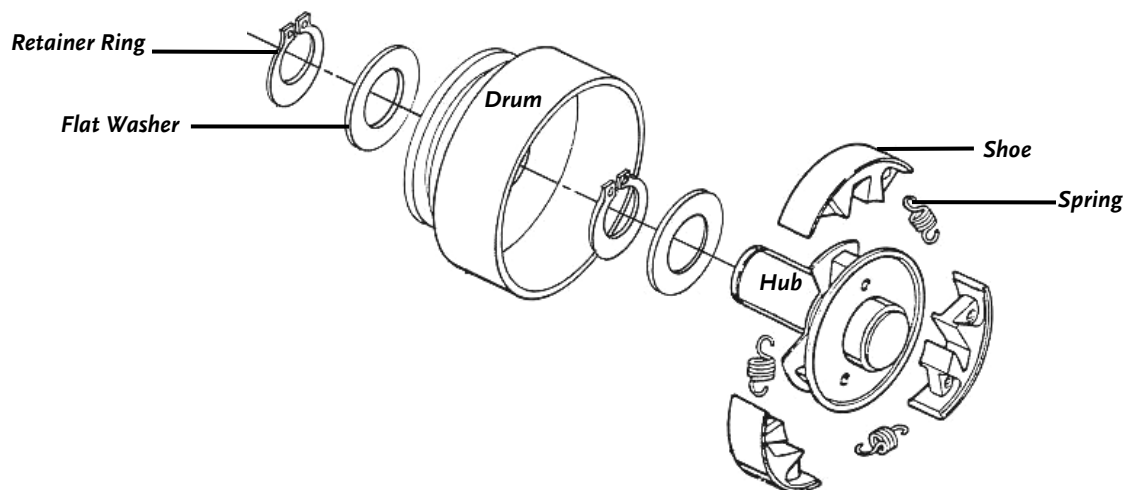

Figure 16
2. Remove the Retainer Ring and Flat Washer and slide the Hub out of the Drum Assembly (**Figure 16**).
3. Unhook one Spring from its Shoe (**Figure 16**).
4. Carefully note the position of Shoes and remove Shoes from the Hub (**Figure 16**).
7. Reassemble the Drum to the Hub, reinstall the Washer on Hub Shaft, and secure in place with the Retainer Ring (**Figure 16**).